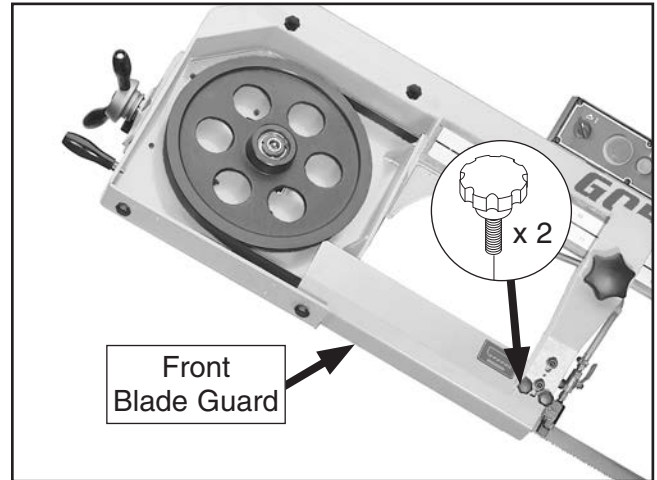

Figure 31. Location of front blade guard and knobs.
5. Loosen (2) knobs shown in **Figure 31** to remove front blade guard.